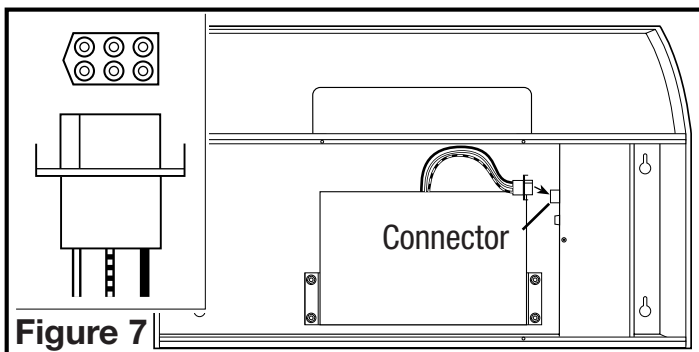

Figure 7
3. Plug the blower into the appropriate connector on the side of the wire compartment. It will only fit one way (**Figure 7**).
1. To replace the fuse, turn the fuse cap located next to the wire connector counter clockwise and pull out. Replace with only a 125-Volt fuse, 1-1/2 Amp Max. Reinstall the fuse back into the hood (Figure 7).